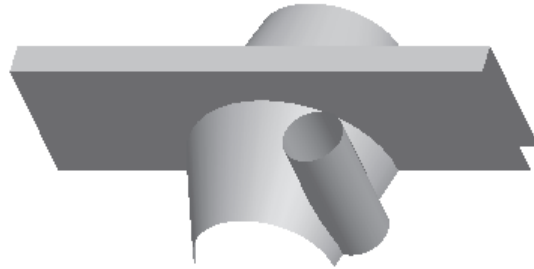

Figure 14-93 Cylindrical surface
5. Exit the **Sketcher** environment and extrude the sketch to some appropriate depth, refer to Figure 14-93.
The model, after creating the surface extrusion, is shown in Figure 14-93.